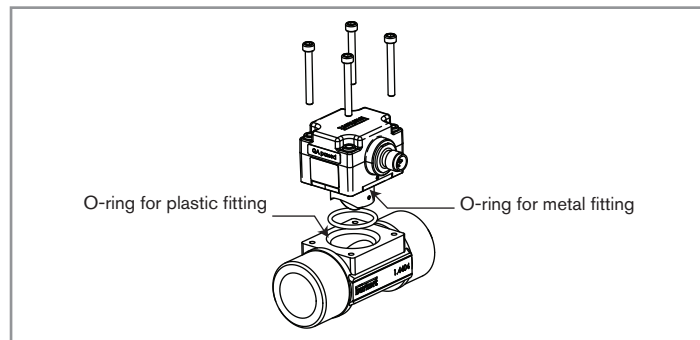

Fig. 12: Exploded view of the 8011
- Insert the new seal (see Fig. 12).